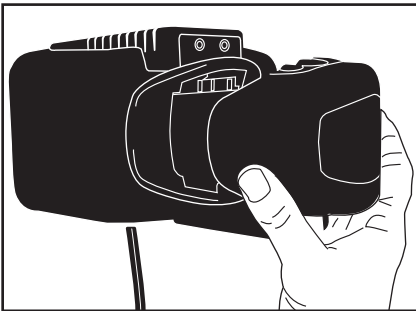

Figure 2
5. A second charging bay is provided on the charge rack to charge a second battery (not included). To charge a battery in this bay, insert the battery until it locks in place and the LED illuminates. (see figure 2) The LED will glow red when the battery is charging and green when it is ready to use. When charging two batteries (one in the handle and one directly in the charger), the charger will charge whichever battery was inserted first. Then when that battery is fully charged, it will automatically switch and charge the other battery. Each battery will take approximately 1 hour to charge (a total of 2 hours for two batteries).